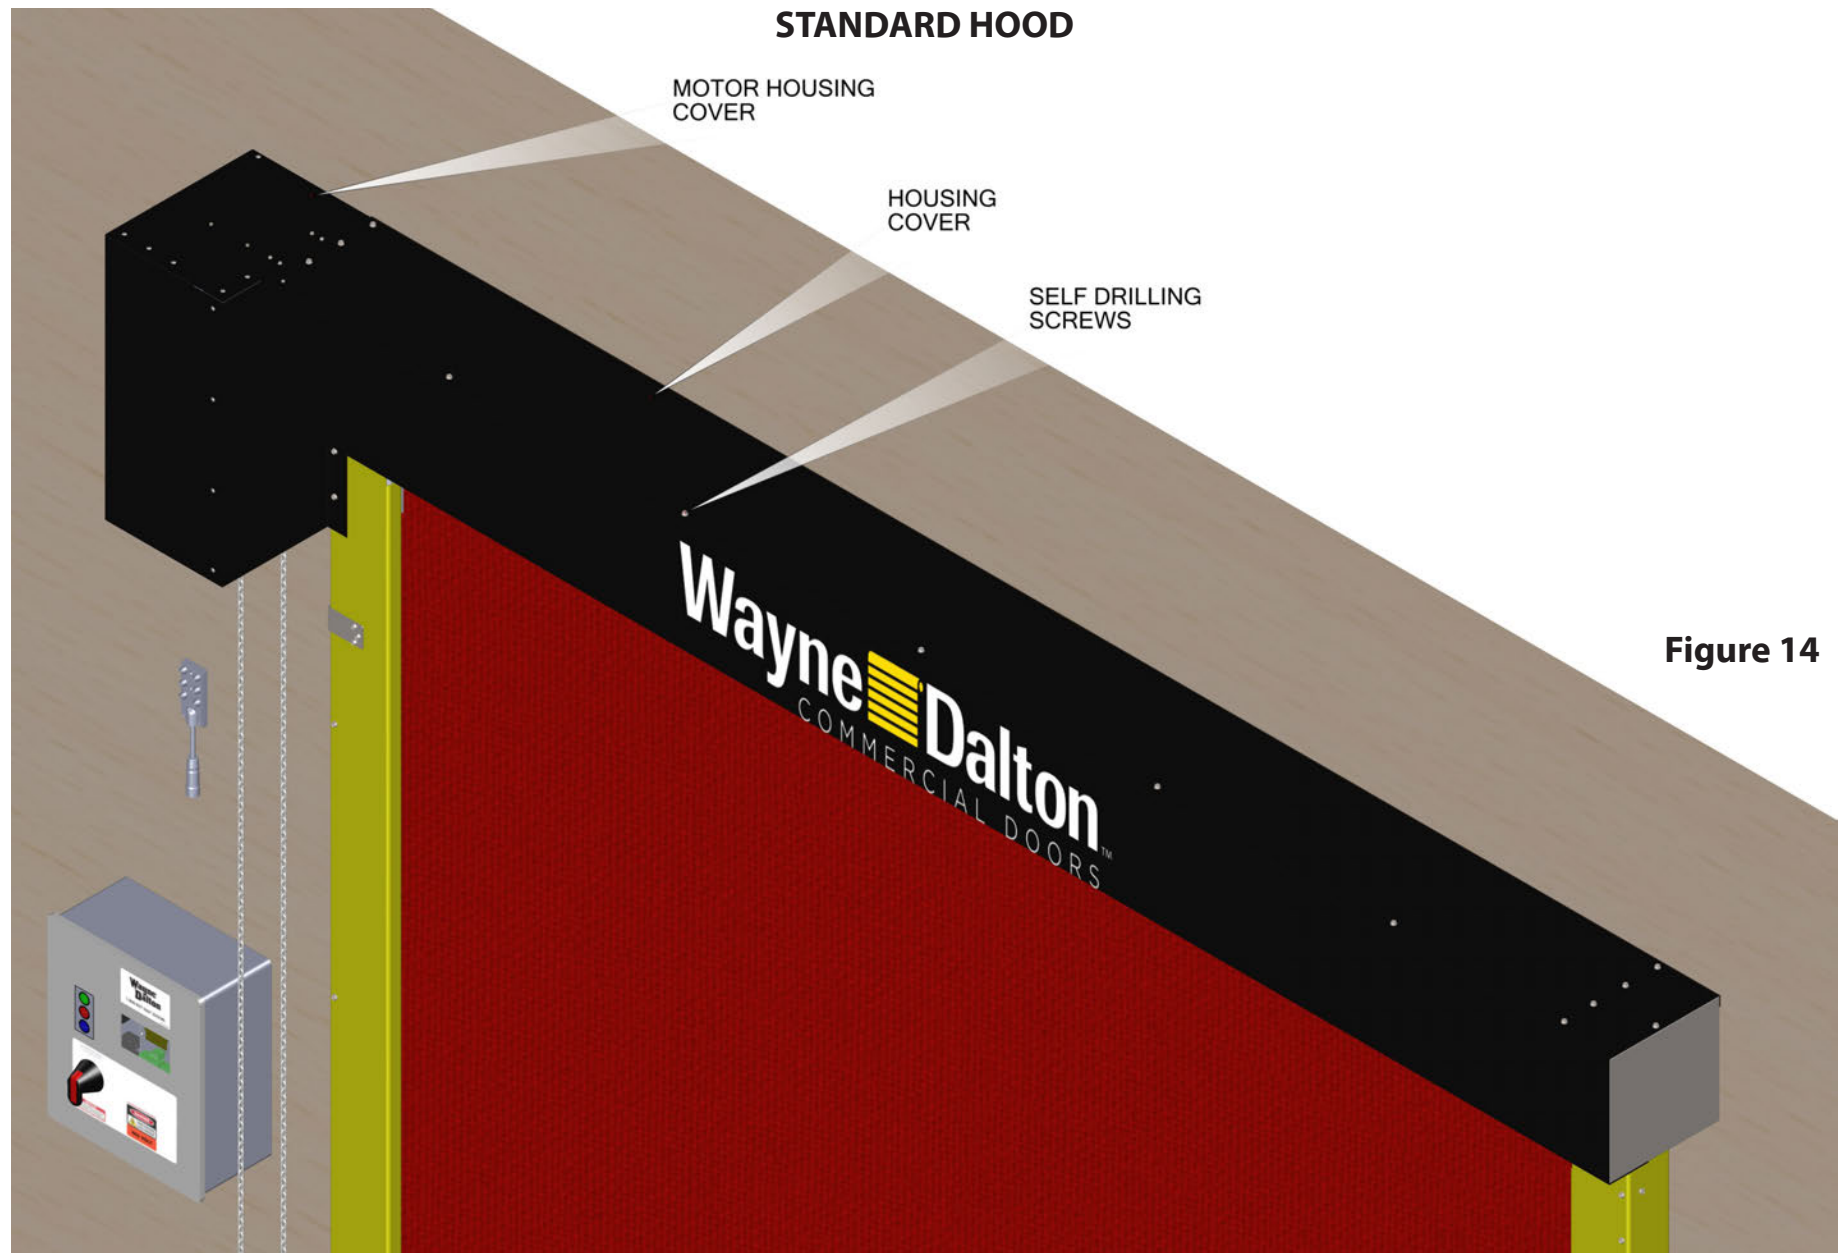
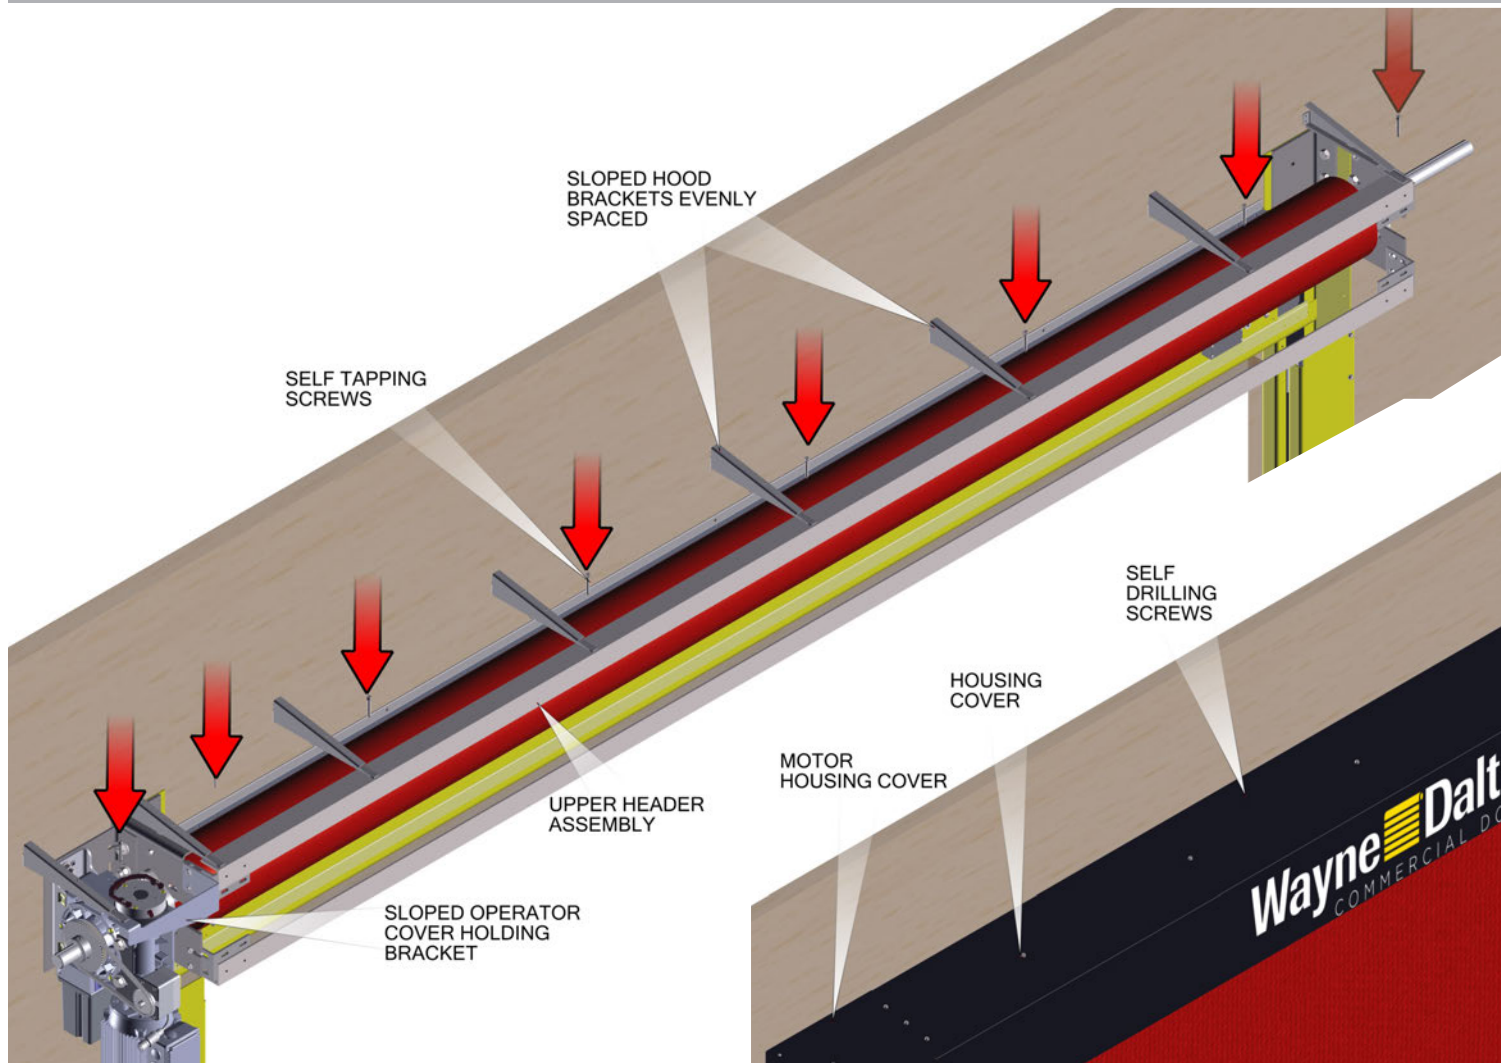

Figure 14
Figure 15
- Install the hood and motor housing using the self drilling screws provided. If you have a standard hood, see Figure 14. If you have a sloped hood, see Figures 15 and 16.